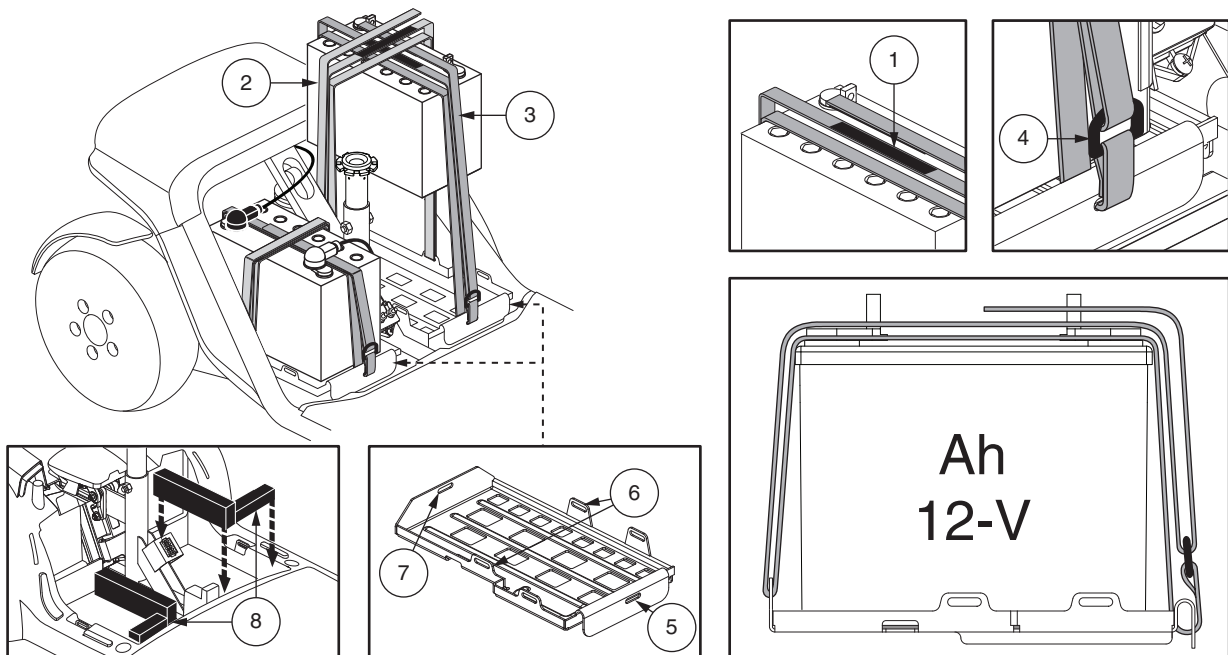

Figure 17. Battery Securement for Models 614 and 714
**NOTE:** *Some scooters have spacers installed to secure the batteries. You may want to remove the spacers for safe keeping until the batteries are replaced in the scooter. See figure 17.*